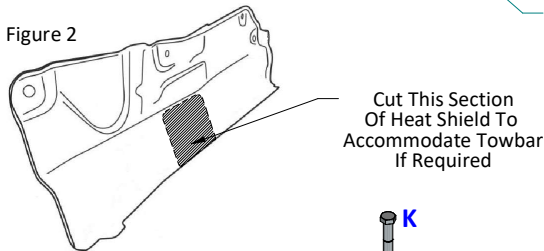

Figure 5
4. Loosely fix item **D** and item **E** to item **A** using items **G** and items **F** to the position shown in **Figure 5**.